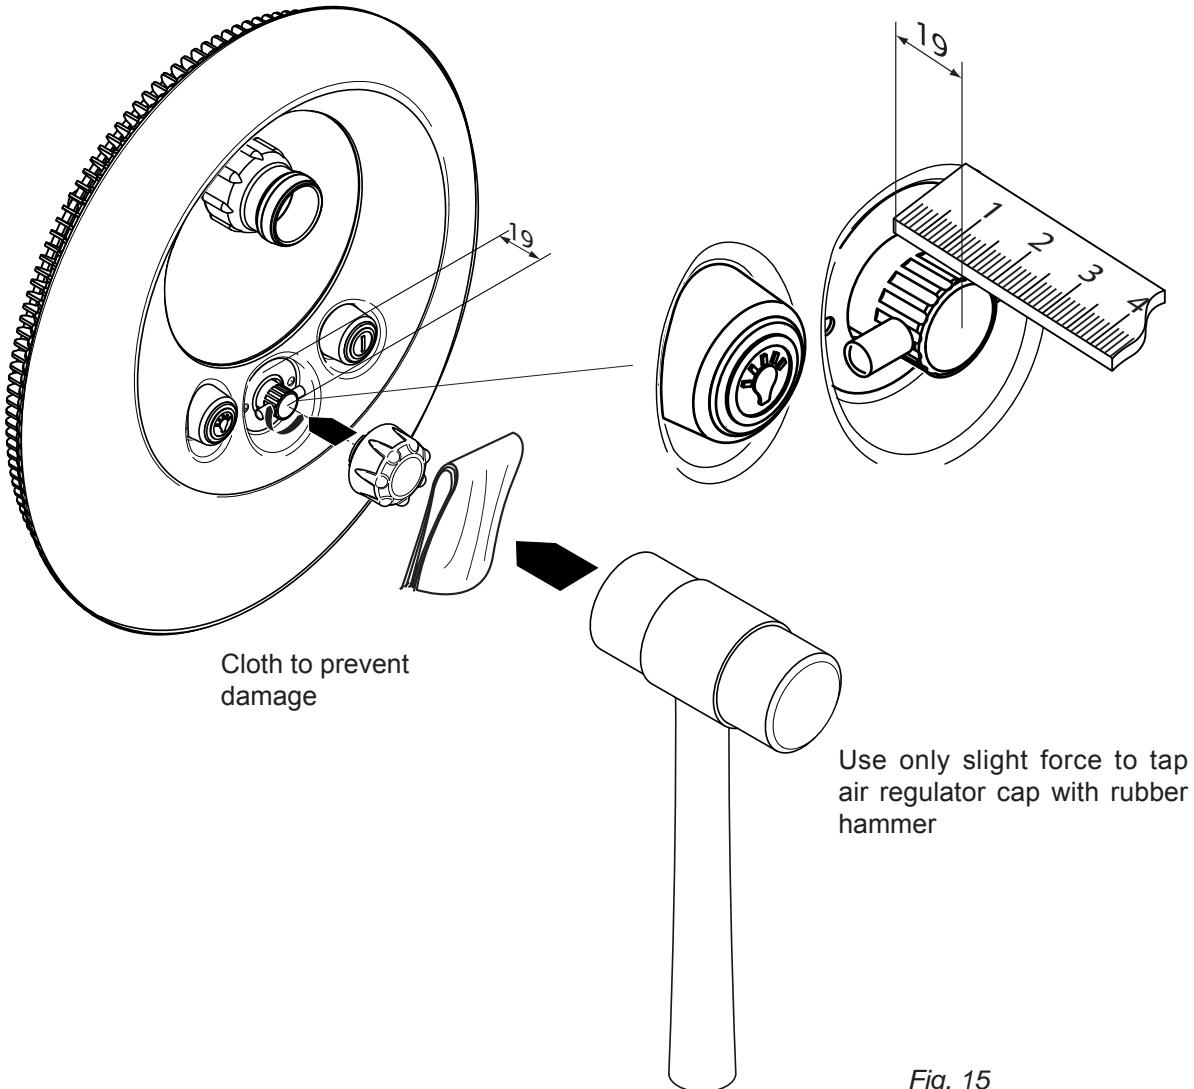

Fig. 15
- 12) Attach cap for air regulator (Fig. 15)
- 13) Connect the jet pump (92) with the half fitting (98, 99, 100), the rubber bracket (79) and the corresponding clamps (75) on the suction and pressure side to the jet housing.